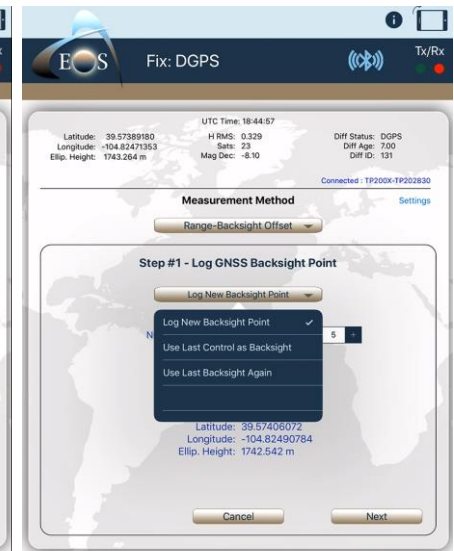

Figure 16B
- 16B. If a new Control Point or Backsight point needs to be measured, simply Back up to Step #1 and record the positions again (Figure 16B)